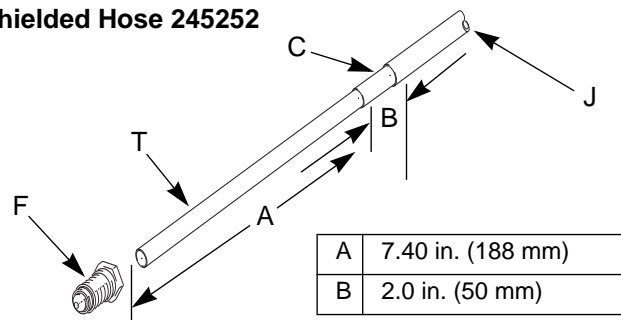

Fig. 5. Waterborne Hose Dimensions (At Gun)
2. For the fluid hose to fit properly, it must be stripped and assembled to the dimensions in FIG. 5. Push the inner tube (T) into the fitting (F) until the tube bottoms. A new Graco waterborne fluid hose comes fully assembled to these dimensions.